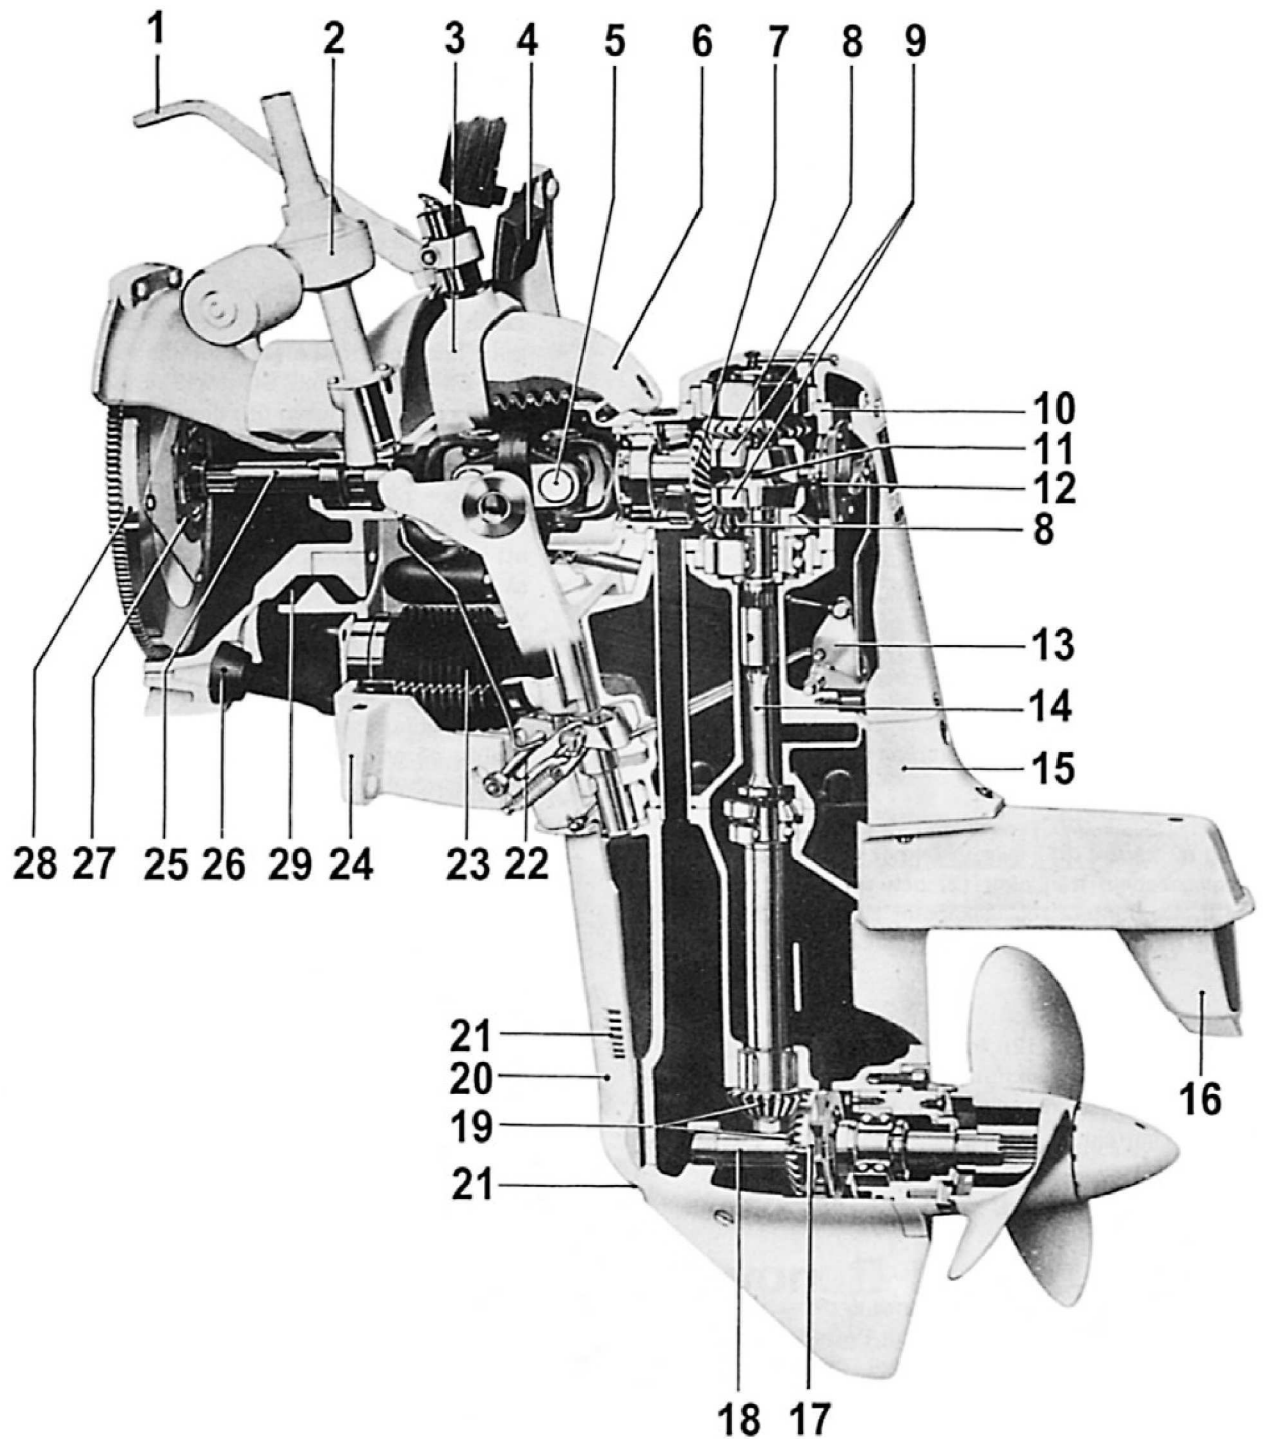
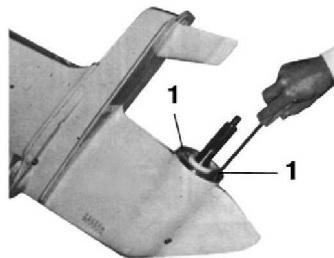

Fig. 1. Cross-section through the Aquamatic 270
Fig. 3.
Outboard model AQ270 is compact unit suspended in a shield on the boat's transom. The unit can be steered horizontally using a steering rod on the inside of the shield and can be raised with an electro-mechanical lift operated from the driving position. All exterior components are manufactured from corrosion resistant materials. In order to further increase the corrosion resistance all components which are subject to corrosion are carefully surface treated. Zinc electrodes, which protect the drive unit from damage caused by galvanic currents are fitted on the lower gear housing behind the propeller and to the shield. See Figs 3 and 4. The engine cooling water is sucked in through the two cooling water inlets on the lower gear housing. See 21, Fig 1. The exhaust gases and cooling water are taken through the exhaust channel of the outboard drive and released under the rear edge of the cavitation plate. The shift mechanism consists of the Volvo Penta patented cone clutch, of "Silent-Shift" type. The mechanism is fitted with servo disengagement and self-adjusting friction cones and is quiet in engagement and easy to operate.
Power from the engine is transmitted to the upper gear housing through the vibration damper (27), Fig. 1, the shaft (25) and the double universal joint (5). From the universal joint the power is transmitted to the input gear (7) for forward and reverse, which is in constant mesh with "Forward" and "Reverse" gears (8). These gears are carried on the countershaft so that they can rotate independently of the shaft. Between the gears (8) there is a cone clutch which makes possible disengagement and reversal of the direction of rotation of the vertical drive shaft (14). The lower end of this shaft drives the propeller shaft (18) through the propeller gearing. The total reduction ratio for the drive 270B is 1.61:1, for the drive 270C it is 1.89:1 and for the 270D 2.15:1.
2. Remove the two crosshead screws 1, Fig 3, for the zinc ring and remove the ring.